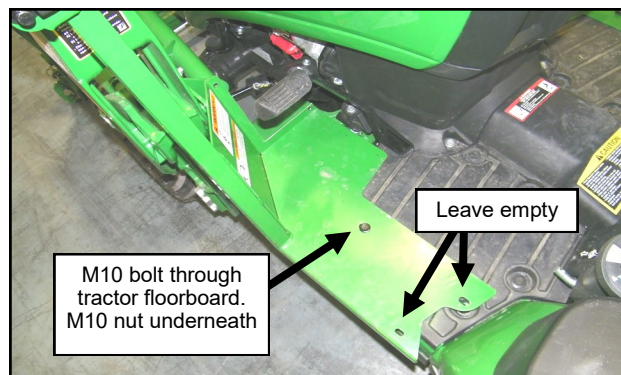

Fig. 3.1 (Place A-Pillar on Tractor)
- 3.1 Set the left A-pillar onto the floor mat and loosely bolt it down with one bolt through the front slot only. See figure 3.1. Tighten the bolt snug to stabilize the A-Pillar; the bolts will be fully tightened at a later step once the rest of the cab has been assembled.